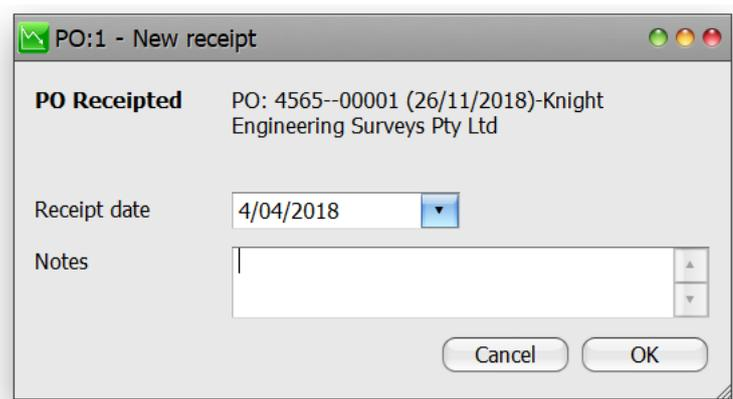

Figure 63 New receipt dialog
4. This will bring up the New Receipts screen. In the Receipt Date field select 4/4/17 and click OK (Figure 63).